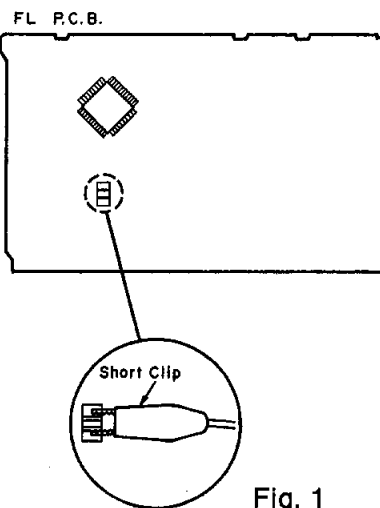

Fig. 1
Step 1 Short the Test Mode terminals with a shorting clip (see Fig. 1).